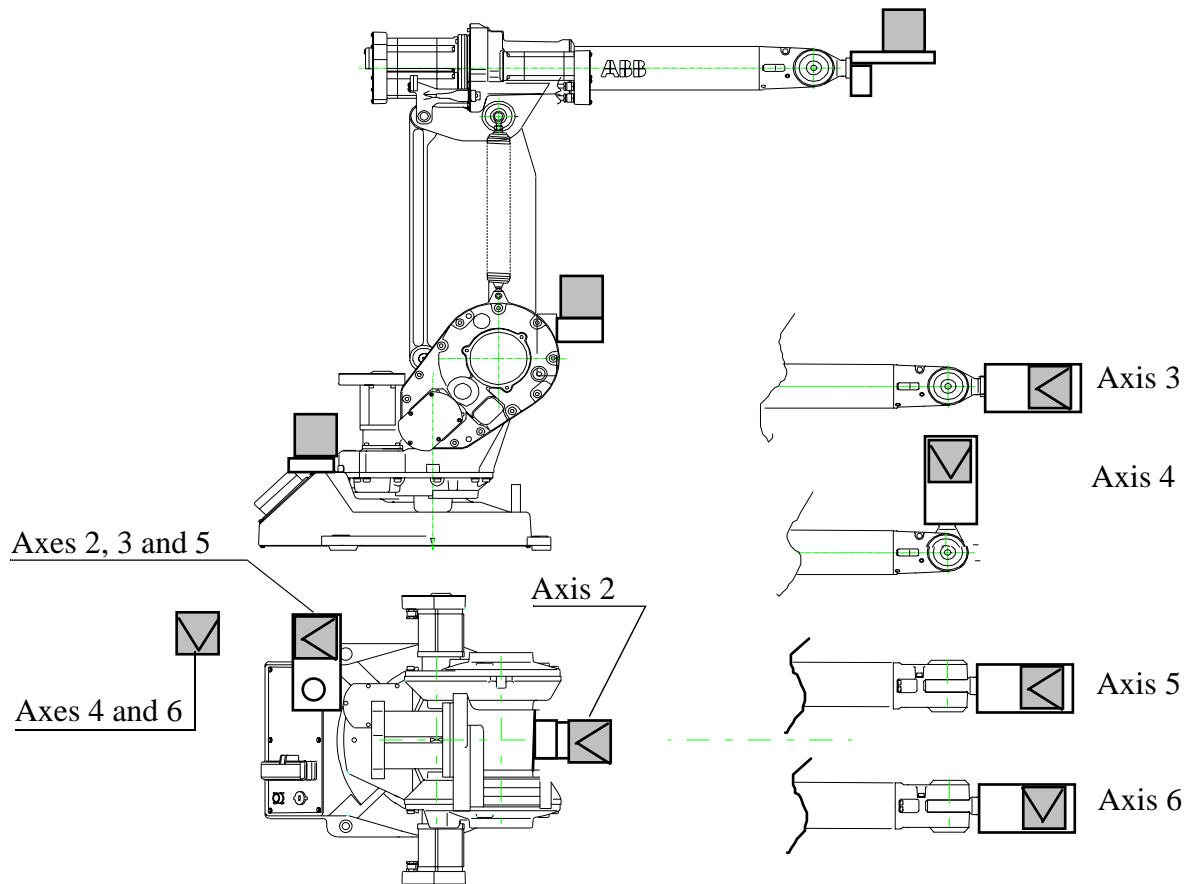

Figure 12 Calibration directions.
20. Position the sensors as shown Figure 12, for axis 2.
24. Put the sensors on the shelf and jog the robot to the calibration position, 0 ± 16 increments. See Figure 12.
34. Put the sensors on the shelf and run the robot so that axis 5 comes to the correct calibration position, 0 ± 32 increments. See Figure 12.
37. Adjust axis 6, 0 ± 32 increments. See Figure 12.